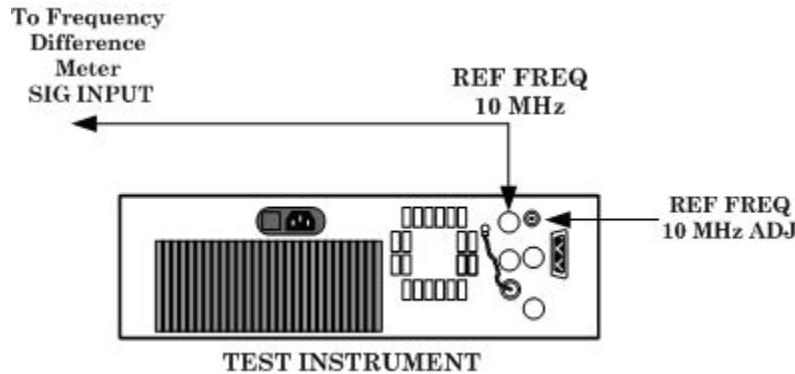

Figure 2. 10 MHz REF FREQ adjust.
- d. In figure 2 adjust **REF FREQ 10 MHz** for minimum drift indication on the frequency difference meter.